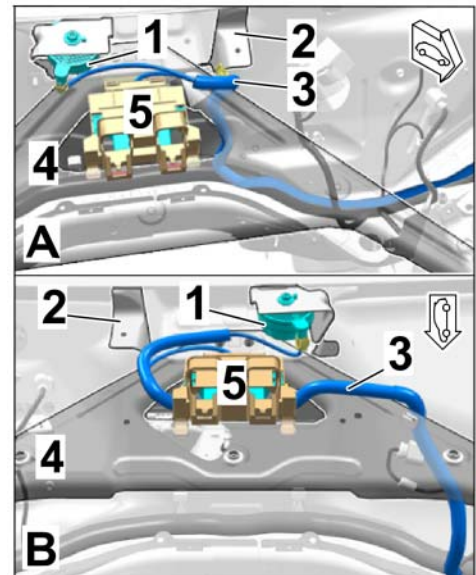

Figure 15
2.2.3 Secure the engine noise pulse sender, facing downwards, in the bulkhead holder (plenum panel) using an M6 hexagon nut (1 x) (⇒ Figure 15)